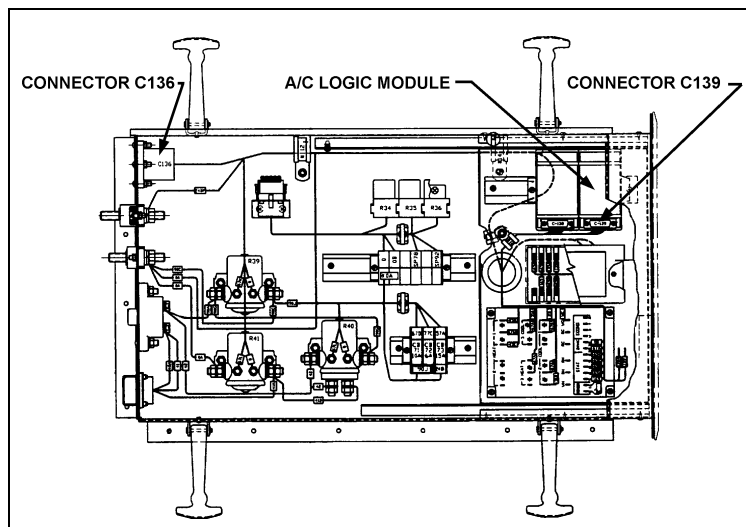

FIGURE 5 : A/C JUNCTION BOX CONNECTORS
3. Disconnect C139 connector from A/C logic module (refer to fig. 5). Connect C139M connector of cable assembly (Prévost #064771) with A/C logic module and C139 connector with connector previously installed. Refer to wiring diagram D060869 P. 18 Rev. 028.